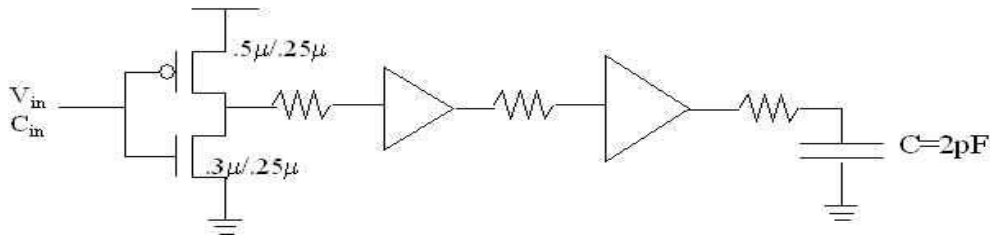

Figure 1b – Minimum Sized Inverter with Buffer Circuitry along a long trace
We will try to minimize the delay in this circuit by routinely inserting buffers, as indicated below in Figure 1b. Also note that the design is a mixture of the buffer and repeater approaches as described in your reader.
- g. Simulate your new circuit by extracting the MAX layouts for each of the inverters and constructing the SPICE file corresponding to the schematic shown in Figure 1b.